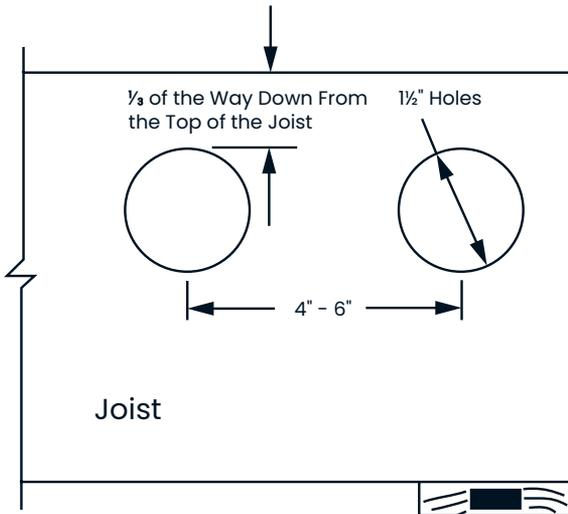

Figure 7-16: Side view of joist
1. Drill two 1½" holes in each joist as shown in **Figure 7-16**.